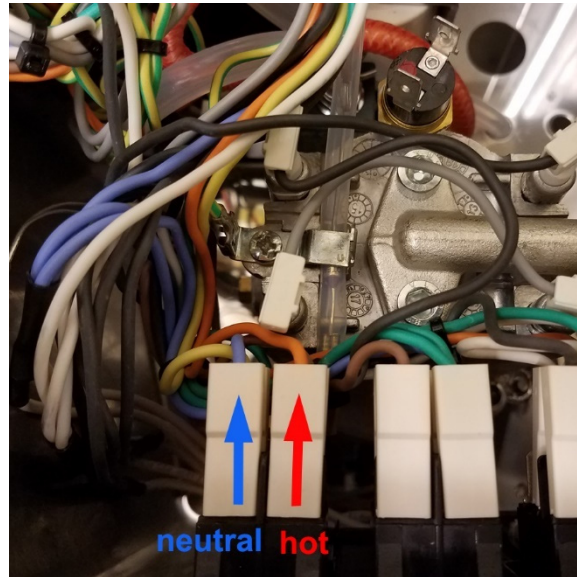
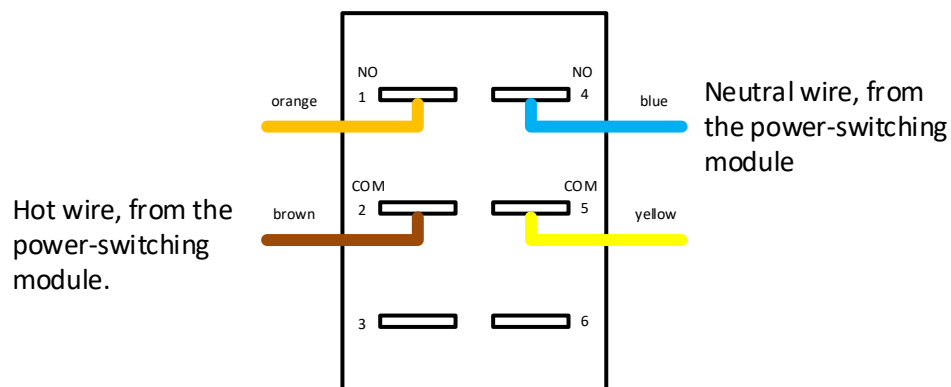

Figure 20. The top-view of the power button.
Figure 21. A schematic diagram (back-view) of the power button showing how the wires are attached.
- 1) **Locating the power button and identifying wires.** The Gaggia Classic Pro is different from the older Gaggia Classic mainly in its switches (buttons). On the Classic Pro, there are three double-pole buttons. The one on the very left is the on/off button (i.e., power button). The power to the controller will be tapped from this power button. The image in Figure 20 shows the top view of the power button. The orange wire is the hot wire from the power-switching module. The blue wire is the neutral wire from the power-switching module. The diagram in Figure 21 shows a how the wires are attached to the back of the switch, and how the pins are labelled.